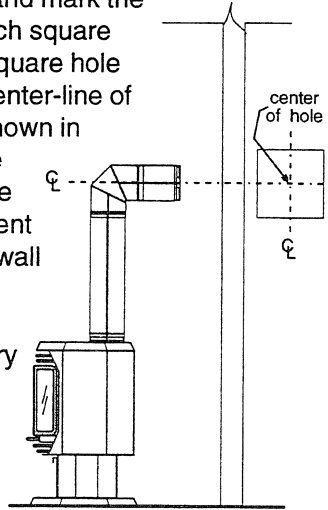

Fig. 2
- 3) With the pipe attached to the stove, slide the stove into its correct location, and mark the wall for a 10 inch x 10 inch square hole. The center of the square hole should line up with the center-line of the horizontal pipe, as shown in Fig. 2. Cut and frame the 10 inch square hole in the exterior wall where the vent will be terminated. If the wall being penetrated is constructed of noncombustible material, i.e. masonry block or concrete, a 7" diameter hole is acceptable.